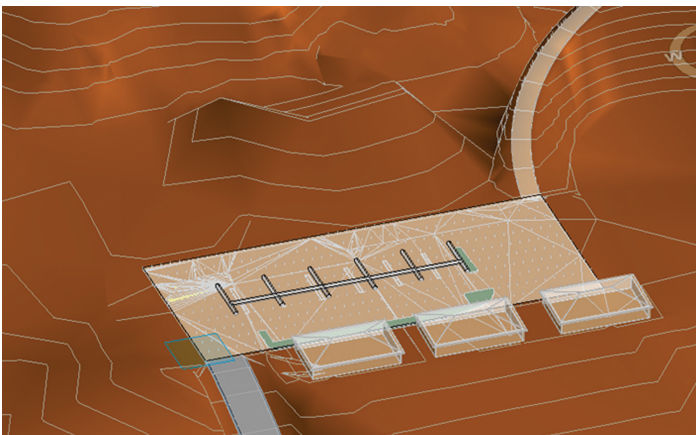

Figure 6: Parking lot with mass rig
10. Build the parking lot by simply activating the Roof by Face command and select the mass surface. The new "road" should look like Figure 6.